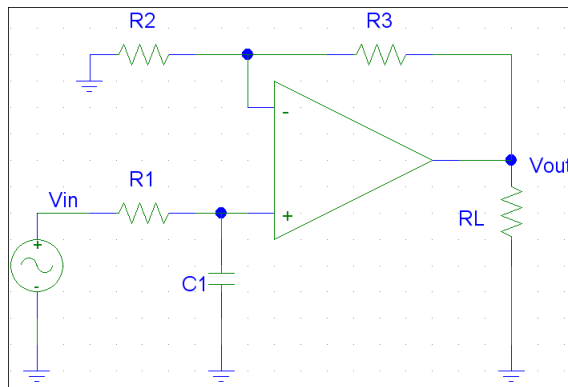

Figure 2: Basic 1st Order Bessel LP Filter in the Non-Inverting Configuration with Non-unity Gain
The equation in (1) is used to calculate the value of the capacitor needed based on a chosen value for cutoff frequency and R_1 (or vice versa if a value for C_1 and a cutoff frequency are chosen then the value of R_1 can be found). There is unity gain in this configuration because of the non-inverting properties of the Op Amp. To change the gain, the feedback network must be changed to include two other resistors (R_2 and R_3). The gain is then found to be $1 + R_3/R_2$ because of the non-inverting configuration. The circuit with a non-unity gain is shown in Figure 2.
High Pass Filter: A high pass filter allows signals with higher frequencies to pass from input to output while rejecting lower frequencies. If creating a low pass filter was easy, then creating a high pass filter is even easier. In the case of the 1st order Bessel LP filter the capacitor and resistor only need to be interchanged with each other and the result is a high pass filter. The same equation holds for finding the cutoff frequency and is shown in (1). The circuit shown in Figure 4 is that of a 1st order Bessel HP filter with unity gain. The gain can be adjusted to the non-unity case by adding the feedback network resistors in the same location as the LP circuit of Figure 2.